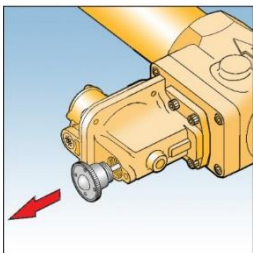

Fig. 9
17. Re-cock OPSS device by unscrewing reset spindle end cap and firmly pull. Hold in this position until the outlet pipework is fully pressurized, then release reset spindle end cap gently. Re-screw reset spindle end cap into body. See Fig. 9.
25. Re-cock UPSS device by unscrewing reset spindle end cap and firmly pull. Hold in this position until the outlet pipework is fully pressurised, then release reset spindle end cap gently. Re-screw reset spindle end cap into body. See Fig. 9.
41. Remove spring and replace with new one. See Fig. 9.